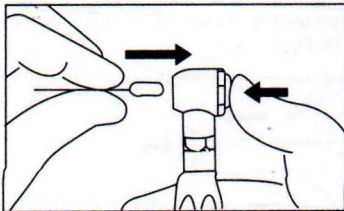

Fig.4
- insert the instrument handle into the chuck(Fig.4)and release the button